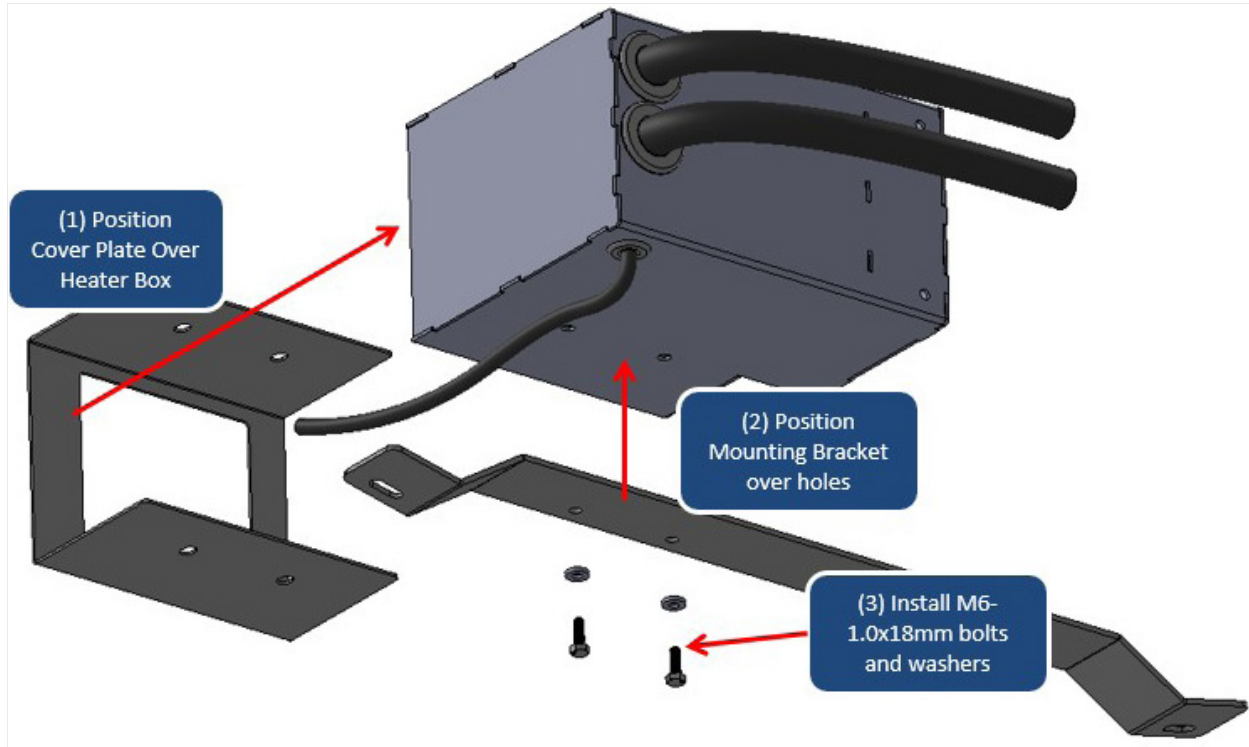

FIGURE 9
25. When the heater unit is fully pressed into the heater box, position the front cover plate over the front of the heater box. Attach the heater box to the frame mount bracket using two M6-1.00 x 18mm hardware as shown in **FIGURE 9**. Do not fully tighten at this time. Insert the remaining M6 x 18mm hardware from the top of the front cover plate and fully tighten all bolts.